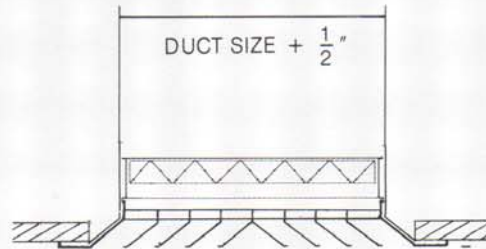

FIG. 2
- PREPARE THE AIR DUCT EDGE SIZE ACCORDING TO THE NECK SIZE OF DIFFUSER AND FIX DIFFUSER FRAME TO AIR DUCT WITH SCREWS THEN SNAP IN DIFFUSER CORE TO THE FRAME (FIG 2)